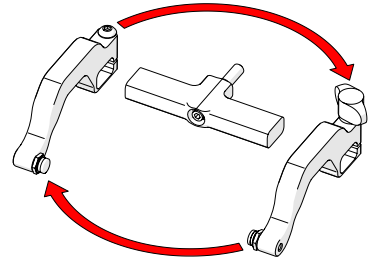

Fig. 130 - Reverse position around yoke
- 14.** Position removed arms to opposite sides of the yoke (*Fig. 130*).